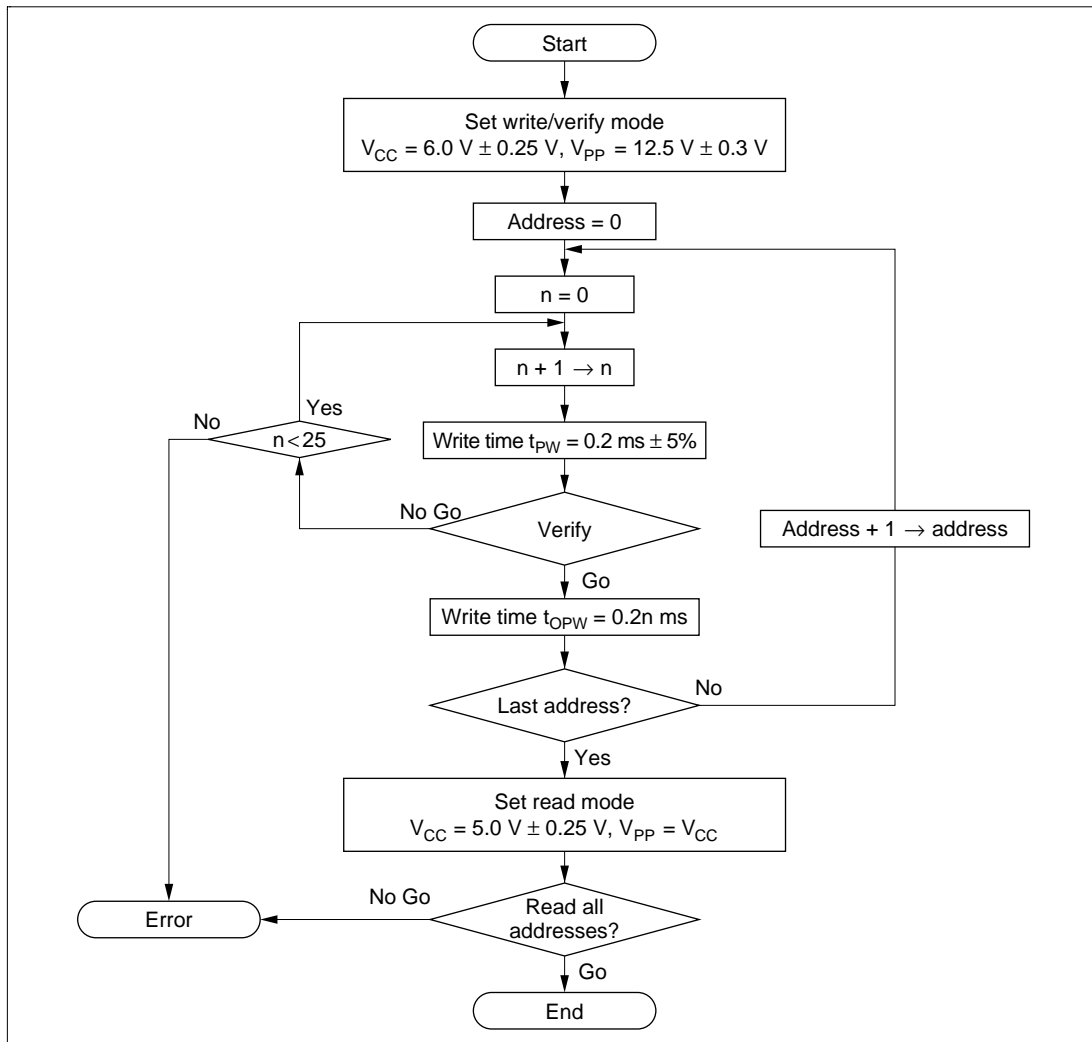

Figure 6.4 High-Speed, High-Reliability Programming Flow Chart
An efficient, high-speed, high-reliability method is available for writing and verifying the PROM data. This method achieves high speed without voltage stress on the device and without lowering the reliability of written data. The basic flow of this high-speed, high-reliability programming method is shown in figure 6.4.
*2 t_{DF} is defined at the point at which the output is floating and the output level cannot be read.*3 t_{OPW} is defined by the value given in figure 6.4, High-Speed, High-Reliability Programming Flow Chart.